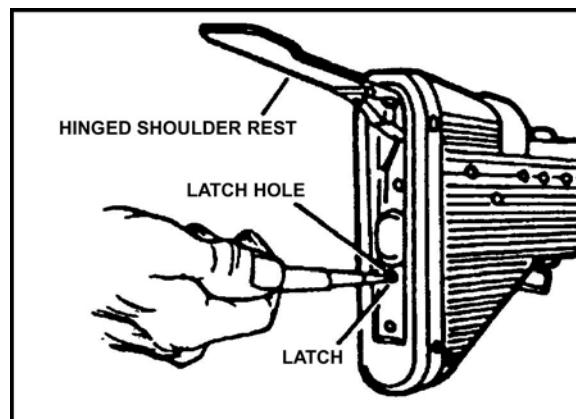

Figure 1. Stock.
- b. Insert the nose of a dummy cartridge into the latch hole (Figure 1).